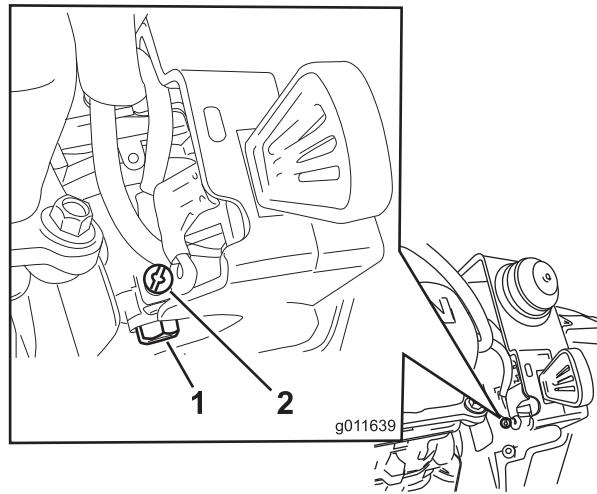

Figure 31
- Unscrew, but do not remove, the small screw on the side of the carburetor fuel bowl (Figure 31) until the fuel begins to drain from the carburetor. Drain the fuel into an approved fuel container.